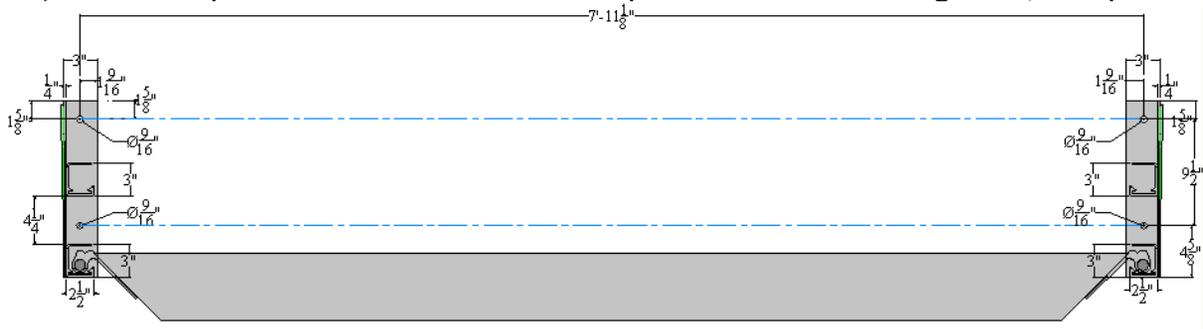

Figure 8 – Front View of Ramp Storage Rack w/ ramp section stored in lower receiver position
- 4) From the point marked in step (3), measure straight up 9-1/2" using the bubble/carpenter's level and make a mark for the second drill hole location. *For the next step, you may need a helper to hold the measuring tape end at the point just marked*
- 5) From the point marked in step (4), measure exactly 95-1/8" horizontally and to the right using the tape measure. Making sure that the tape measure is pulled taut (free of slack) and exactly horizontal with respect to the main beam (using the bubble/carpenter's level), mark the third point at the 95-1/8" mark
- 6) From the point marked in step (5), measure straight down 9-1/2" using the bubble/carpenter's level and make a mark for the fourth drill hole
11) Insert a ramp section into the lower receiver position/slot in the storage rack, as depicted in Fig. 8: